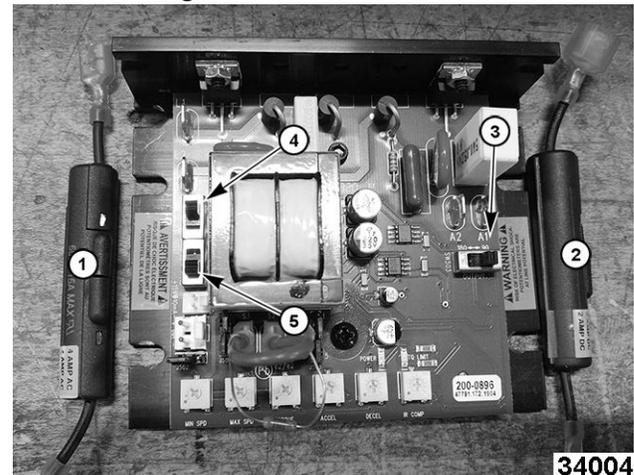

Fig. 65
2ND GENERATION CONTROLLER BOARD SHOWN IN Fig. 65
- Fuse - 1, Fig. 65, 4 amp AC.
- Fuse - 2, Fig. 65, 2 amp DC.
- 4 and 5 switches shown in Fig. 65 are both set at 115V.
- 3 switch shown in Fig. 65 should be set at 90.